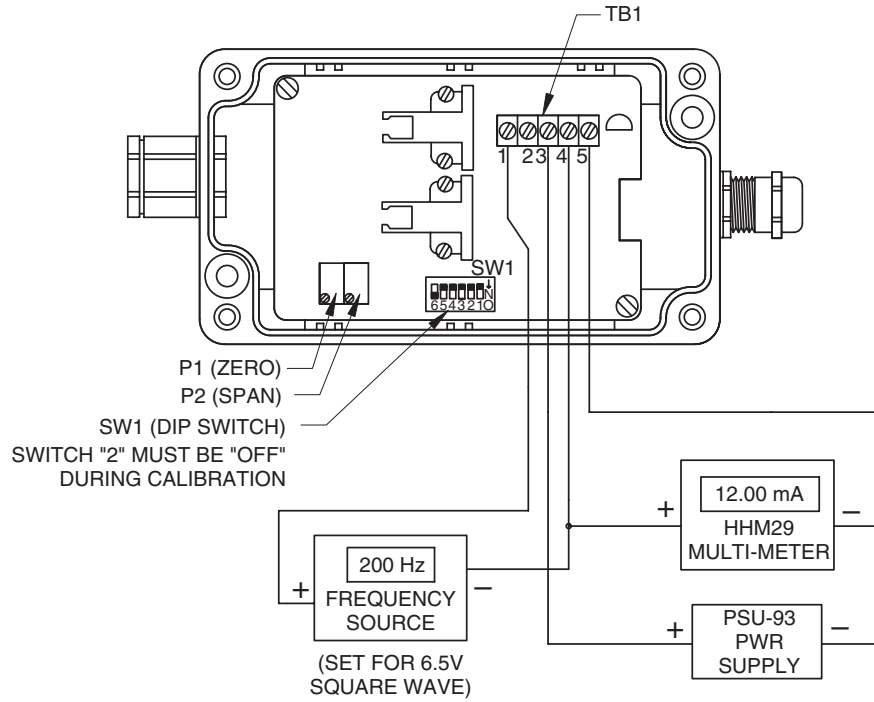

Figure 9 - Calibration Setup
2. Connect the FLSC90-A transmitter as shown in figure 9 (see next page) to the power supply, multi-meter (set to measure milli-amps) and the frequency simulator.
4. On SW1, (See figure 9), set switch #2 to the "OFF" position.
5. On SW1, using figure 9 as reference, set switch #4, 5 or 6 to the "ON" position based on the "CAL MAX" frequency you calculated in "Step 1".